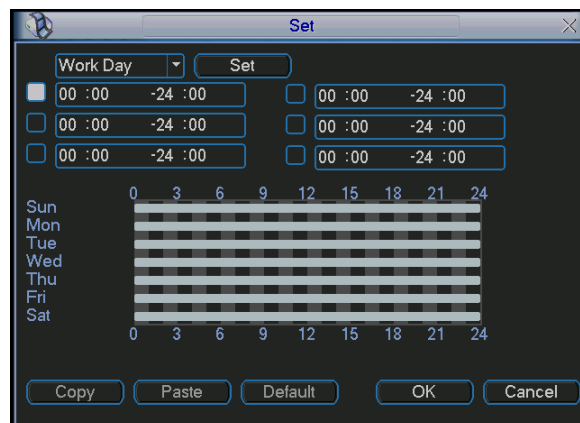
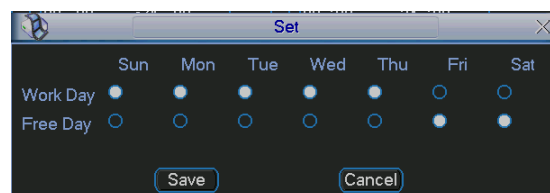

Figure 4-23
Figure 4-24
- Period: Click set button, you can see an interface is shown as in Figure 4-23. Here you can set for business day and non-business day. In Figure 4-23 click set button, you can see an interface is shown as in Figure 4-24. Here you can set your own setup for business day and non-business day.